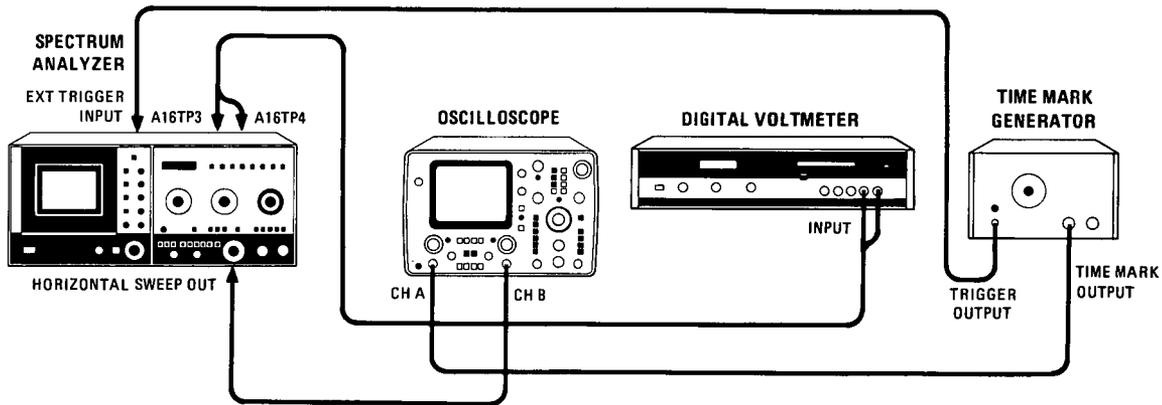

Figure 5-26. Sweep Generator Adjustment Test Setup
- b. Reconnect power cord, set LINE switch ON, connect equipment as shown in Figure 5-26, and set 8565A controls as follows: